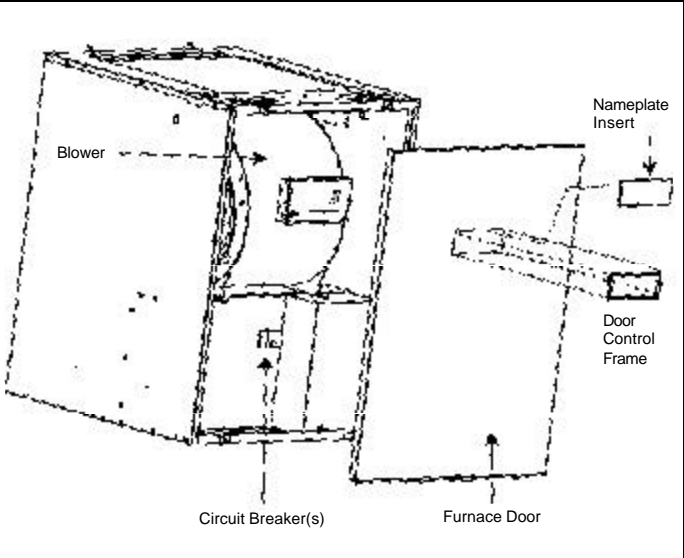

Figure 1. E2 Series Electric Furnace
1. Shut off all power to the furnace. For electric furnaces, switch the circuit breaker(s) to the OFF position (see Figure 1).
- Remove the nameplate insert from furnace door and replace it with the door control frame provided in the extra parts package (see Figure 1 or 2).